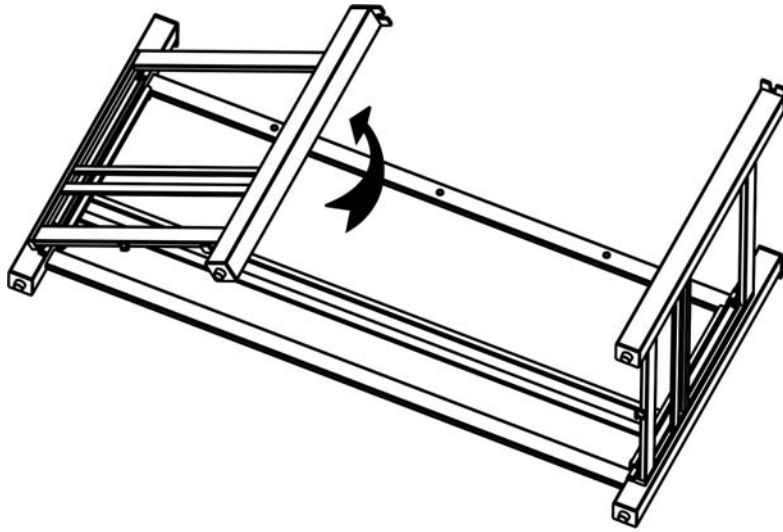

Figure 2
2. Place the back panel down on a flat, non-abrasive surface and open it as shown in Figure 2.